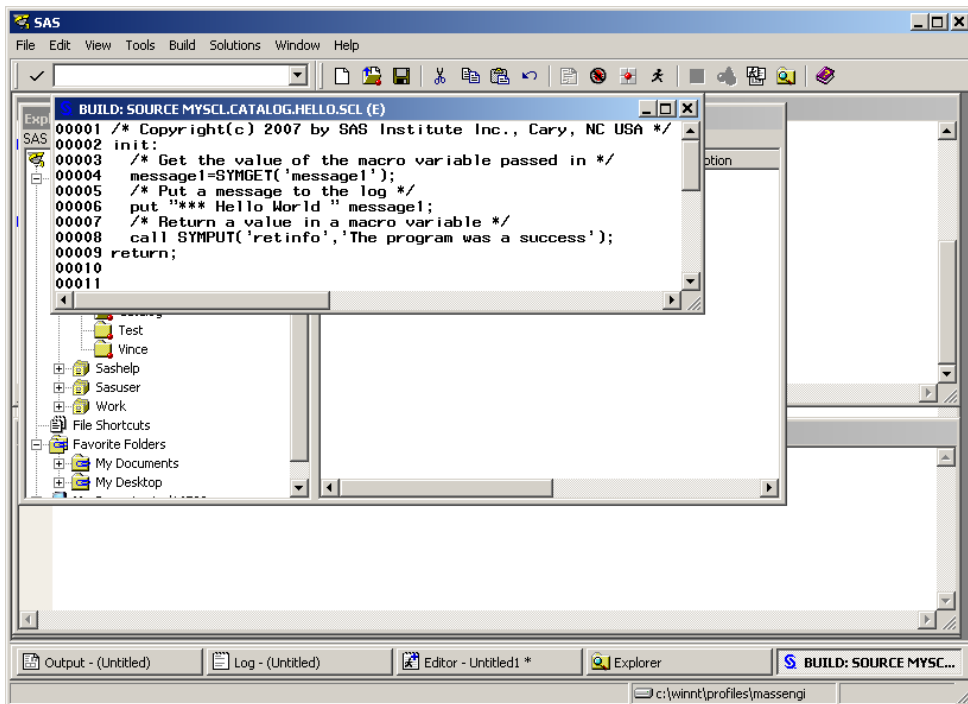

Figure 1. Creating an SCL Program
- Enter the following text in the SCL build window (see Figure 1):